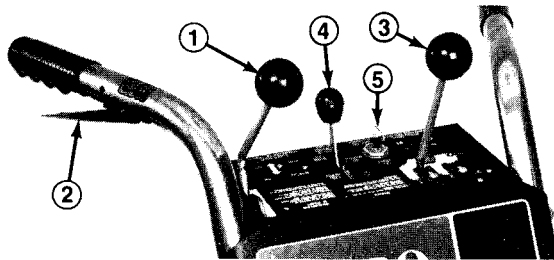

Figure 15
Auger Drive Control (Fig. 15) — Control has two positions: ENGAGE and DISENGAGE. To engage auger and impeller, push control forward until it stops in an over center position. To disengage auger and impeller, pull control backward.
Interlock Lever (Fig. 15) — Interlock lever must be compressed against right handle grip when auger drive or wheel drive control is engaged. The engine will shut off if lever is released when auger drive or wheel drive control is engaged. This is a safety feature that reminds the user to disengage auger drive and wheel drive controls before leaving operator's position behind the handles.
Wheel Drive Control (Fig. 15) — The control has seven positions: N—neutral (2), R1 and R2—reverse, 1, 2, and 3. To change speeds, move gear shift to position desired. Control must be held in R—reverse—when backing and when it is released, gear shift automatically returns to neutral. Use positions 1, 2, and 3 depending on snow conditions. Keep interlock lever compressed when shifting.
Throttle (Fig. 15) — Moving the throttle forward increases engine speed.
Ignition Switch (Fig. 15) — Switch has two positions: ON and OFF. Rotate key to ON before starting engine with the recoil starter. To stop engine, rotate key to OFF.